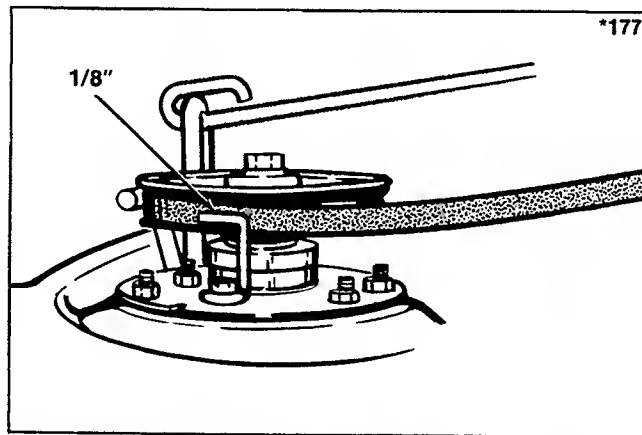

Figure 19. Left Mower Pulley Belt Stop
- Adjust the belt stop on the left mower pulley so there is 1/8 inch (3 mm) clearance between belt stop and belt when PTO is engaged. (See figure 19).